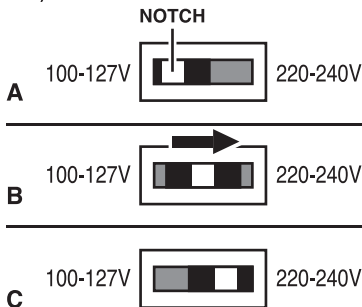

FIGURE 1
1. Locate Voltage Selector, recessed inside slot at rear of Main Body. Note the white open notch in middle of Voltage Selector (FIGURE 1-A).
3. Carefully insert tip of pen into white notch. Slide Voltage Selector to the right, towards 220-240V label (FIGURE 1-B).
IMPORTANT: Be sure that Voltage Selector is moved as far to the right as possible for voltage setting to take effect correctly. Voltage Selector should appear as shown (FIGURE 1-C).